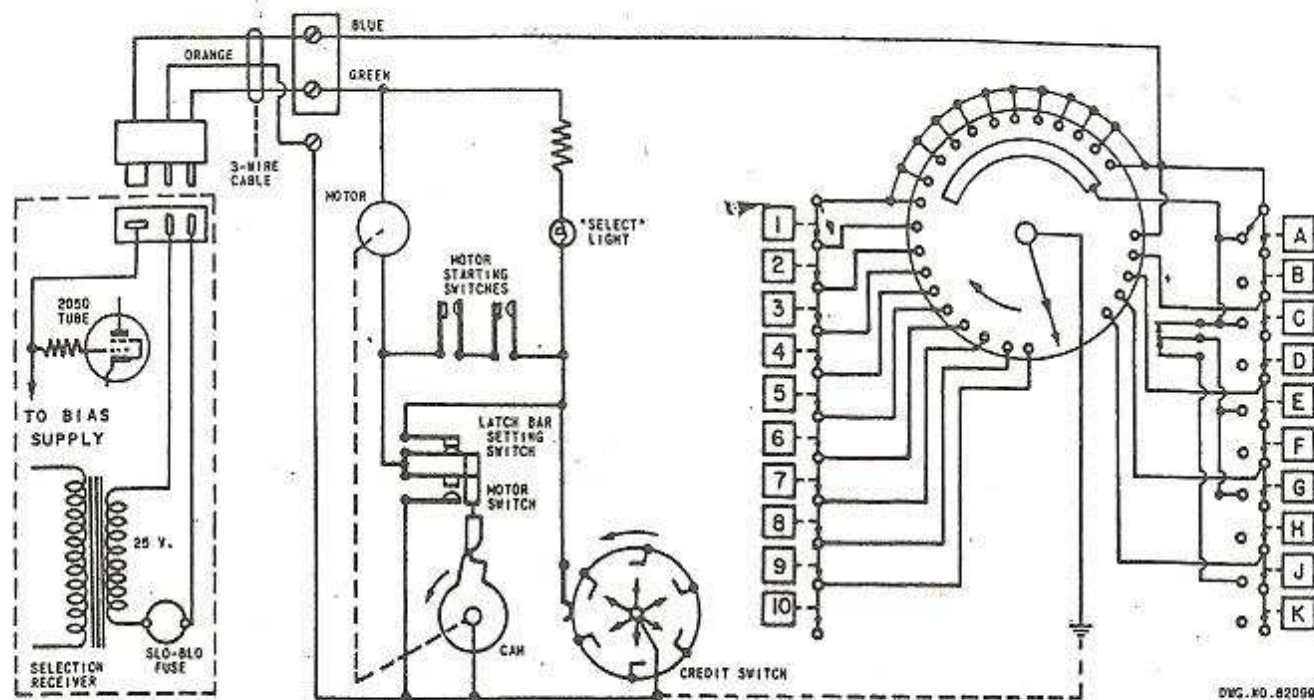
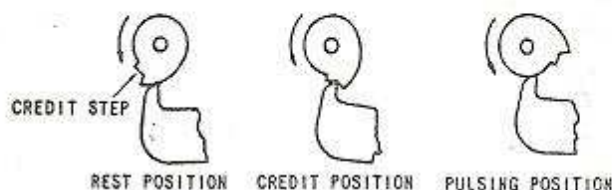

FIG. 2. SIMPLIFIED SCHEMATIC - 3W-1.
FIG. 3. CAM POSITIONS.
group solenoid of the Solenoid Assembly so they will be energized. This operation is dependent on the number of pulses and the intervals of time between them. Two series of pulses are required -- a first series for the selection of a selector coil circuit and a second series for selection of a group solenoid. The number of pulses in each series is determined by which Wall-O-Matic selection switches are pressed. There will be from 2 to 21 in the first series and from 1 to 5 in the second series. The rate of the pulses and the time interval between them is determined by the design of the Wall-O-Matic and the motor speed. This interval between individual pulses in both series is approximately $1/25$ second and an interval of approximately $1/5$ second occurs between the last pulse of the first series and the first pulse of the second series. A simplified circuit diagram of the connection of the selection circuit is shown in Figure 2.
In the Rest Position, the selector Buttons are free to move in and out, the Latch Bar Setting Switch shown in Figures 2 and 4 is closed, and the Credit Switch is open. When a coin is deposited to establish credit, a coin switch is closed momentarily to energize a credit solenoid. The credit solenoid, in turn, operates a plunger which closes one of six snap-action switches on the credit switch assembly. The closed credit switch completes a circuit to the credit indicating light and, through the latch bar setting switch, to the motor. The credit light illuminates the "Select" escutcheon in front of and below the program holder. The motor, operating through a train of gears, turns a cam until the latch bar setting switch is caused to open by the latch bar lever dropping to the "credit step" of the cam. These positions of the cam and lever are shown in Figure 3.
On each of the selection switch assemblies -- the "letter switches" and the "number switches" -- is a Motor Starting Switch. The contacts of the motor starting switches are closed by a treadle bar which is actuated by a selection switch shaft when a selector button is pressed. The two switches are connected in series in the motor circuit so that, when a letter button and a number button are pressed, the motor again starts. The motor turns the cam so the latch bar lever drops from the credit step to the Pulsing "Position" as shown in Figure 3. In this position of the cam and lever, the latch bars are moved to a position which locks the selection switches in position -- pressed in or in normal position -- and the Motor Switch (Figures 2 and 4) is closed. This pulsing position prevails for almost a full turn of the cam. As the cam approaches its rest position, the latch bar lever is raised so the motor switch opens, the latch bar setting switch closes, and the latch bar lever moves the latch bars so the selector buttons are released to their normal positions.
1. Turn the motor manually until the latch bar lever drops to the credit step of the cam then reverse the direction until the point of the lever is against the vertical part of the cam as shown in Figure 3.
The selection switches have three conditions of operation corresponding to the three positions of the cam shown in Figure 3 and 4 and are operated by the cam through mechanical linkage. In the rest position, the switch latch bars are held against the pressure of the latch bar springs so the selector buttons are free to move in and out and will not stay in the pressed-in position. In the credit position the bars are released to a position which permits a selection switch, when pressed, to latch in the operated position but, if another switch is operated, the first will be released. In the pulsing position the latch bars are fully released so the selection switches are locked in either the normal or pressed positions.
1. Place the cam in the Credit Position (Figure 3).